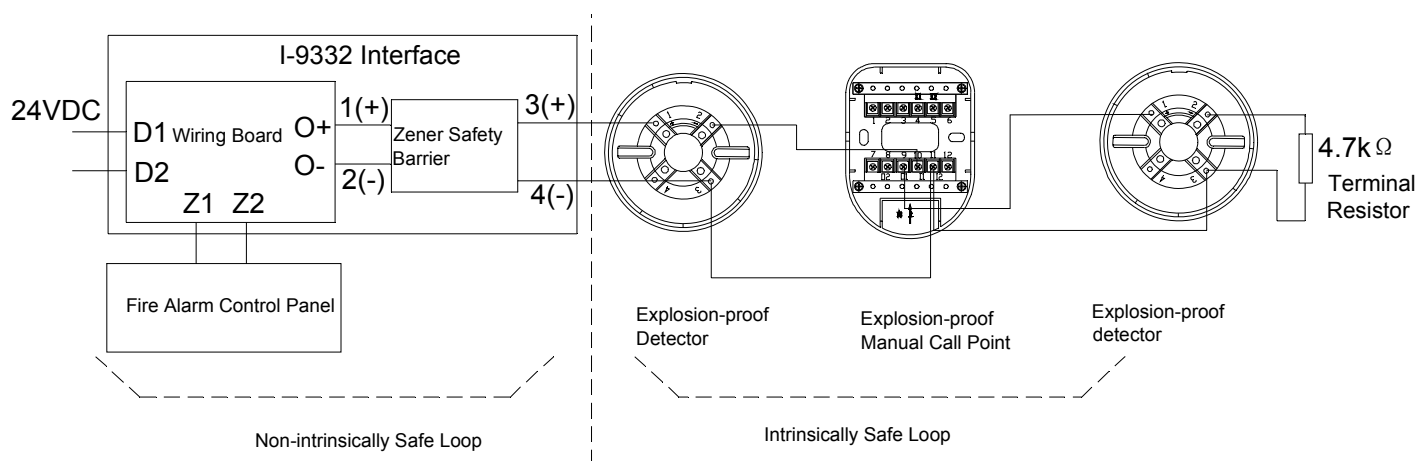

Fig. 4
- ✧ The interface has to connect with a 4.7k $\Omega$  terminal resistor at the end of loop in the intrinsically safe system. The number of connected different devices cannot be over 10. The system composition is shown in Fig. 4.